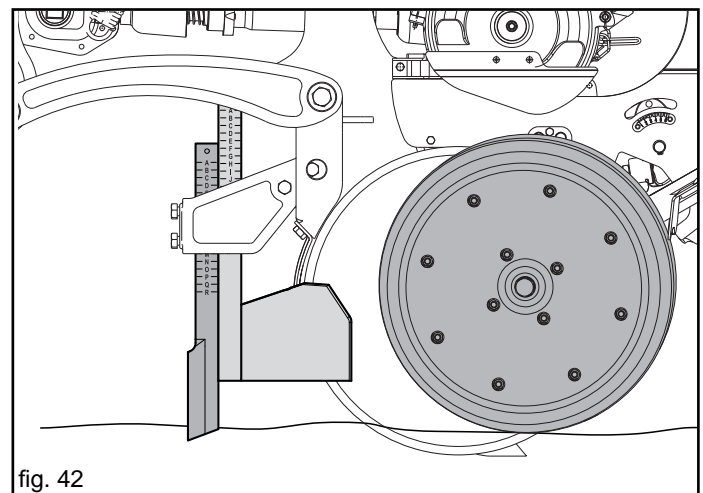

fig. 42
- If the ground is compact, facilitate the penetration of the element's furrow opener discs by giving greater depth to the front earth-opening blade of the clod clearer (Fig. 42).